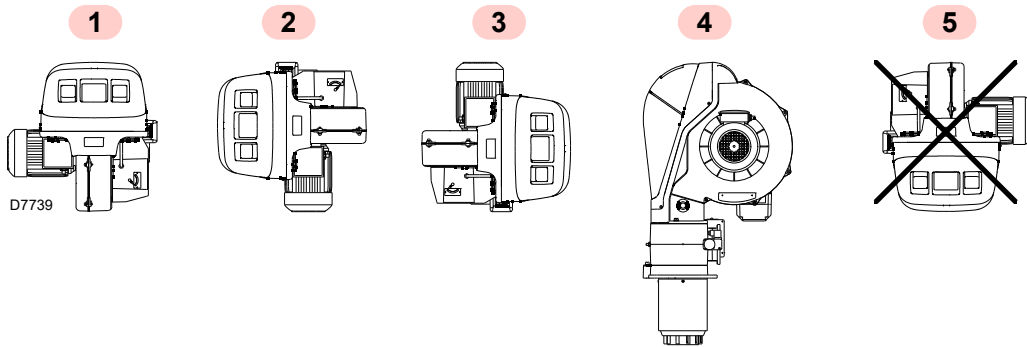

Fig. 10
- The burner is designed to operate only in positions **1**, **2**, **3** and **4** (Fig. 10).